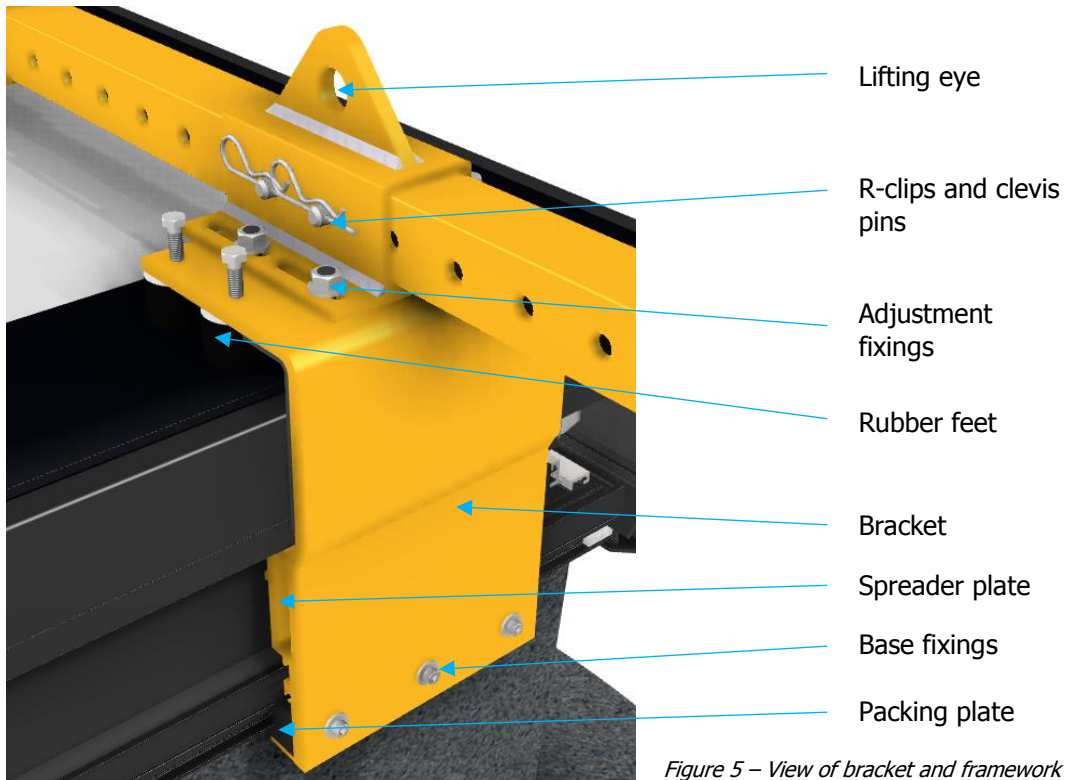

Figure 5 – View of bracket and framework
10. Feed power and control cables from base framework into hole in kerb (*Figure 5*). If BMS integration option was purchased there will be a third cable.